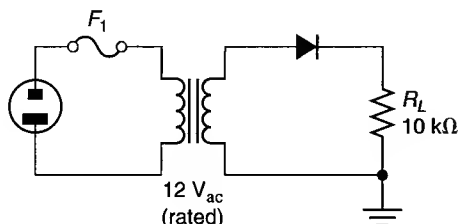

FIGURE 3.54
9. Determine the peak load voltage for the circuit shown in Figure 3.54.
10. Determine the peak load current for the circuit shown in Figure 3.54.
13. Determine the average (dc) load voltage for the circuit shown in Figure 3.54.
16. Assume that the diode in Figure 3.54 is reversed. Determine the new values of $V_{L(pk)}$, V_{ave} , and I_{ave} for the circuit.